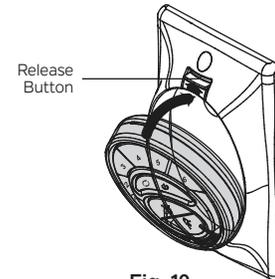

Fig. 19
Step 1. Insert the transmitter into the wall plate by inserting the bottom of the transmitter first and then pressing the top of the transmitter into the pocket. The transmitter will fully function from this location or you can remove the transmitter and use it as a hand held device. **(Fig. 19)**